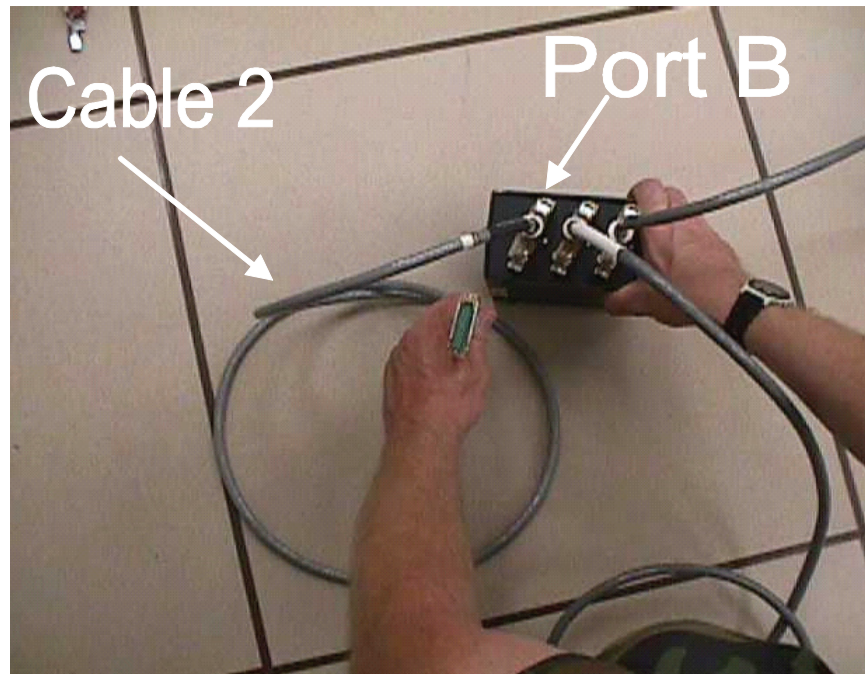

Figure 21. Cable 2.
- Cable 2 consists of a 25-pin male connector and 37-pin male connector (Figure 21). The 37-pin male connector plugs directly into Port B on the rear of the switchbox. The other cable end, a 25-pin male connector, plugs directly into the VS_x 7000e interface box. The box contains two ports; always use Port 1. The opposite end of the interface box has already been connected to the VS_x 7000e in earlier steps of this setup.